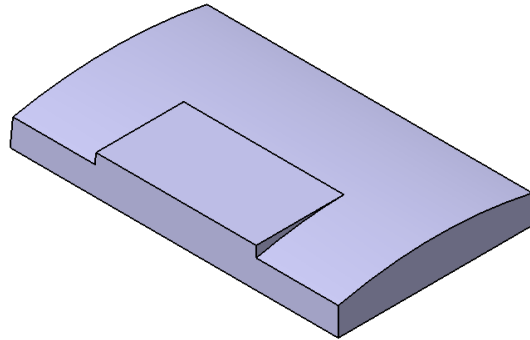

Figure 5-93 Model after drafting all the vertical faces
- c. Add the draft feature to all faces of the model except the upper and the lower faces, refer to Figure 5-93.
4. Set the value of the **Angle** spinner to **3** and choose the **OK** button from the **Draft Definition** dialog box. The model, after creating the draft feature, is shown in Figure 5-93.